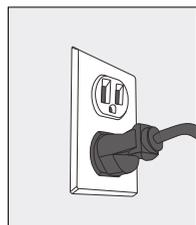

Figure 4
3. Ensure that the available power supply matches the cooler's voltage specifications indicated on the nameplate label (located at the rear.) Plug power supply cord into receptacle (Figure 4).